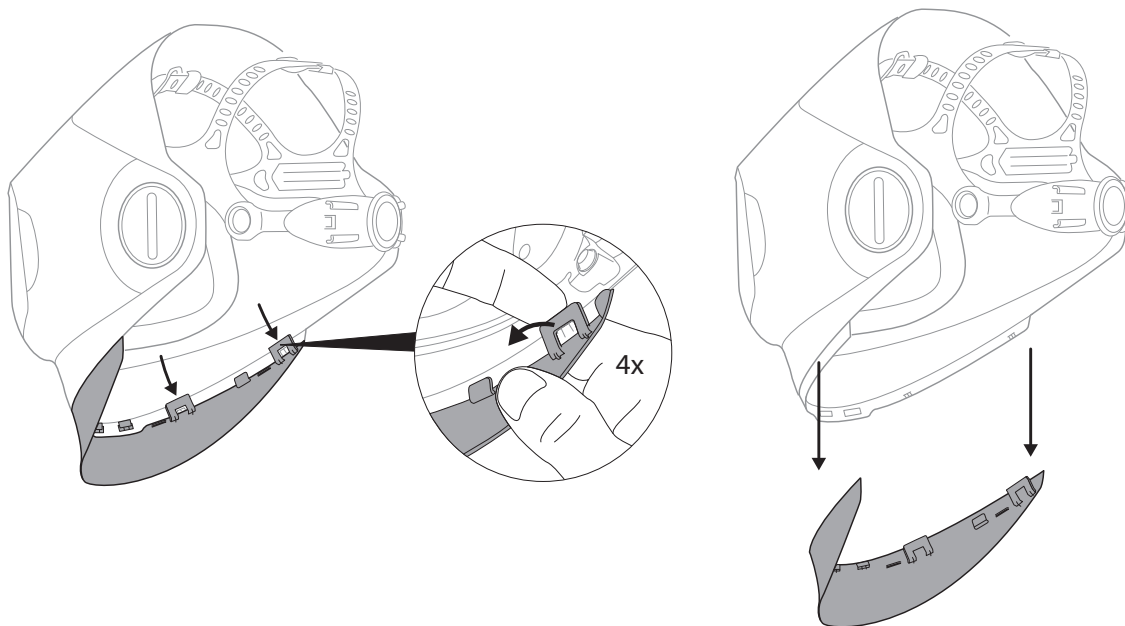
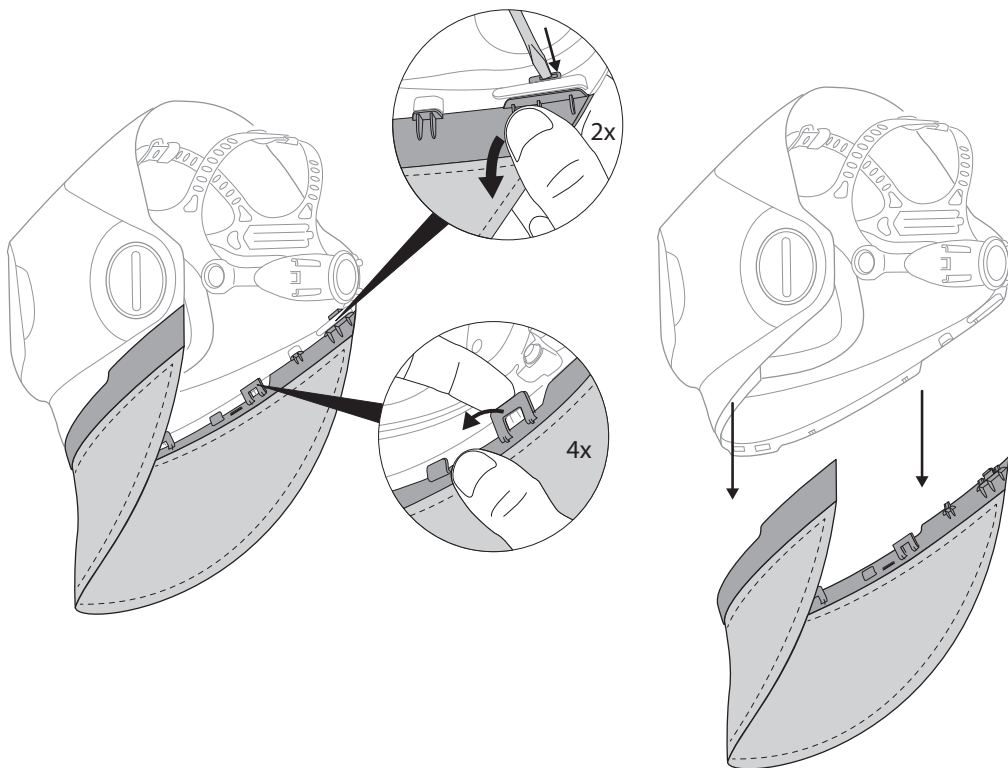

Fig. 19a
Fig. 19e
- b. When all clips have been disengaged, the neck cover piece may be pulled down off the welding helmet (Fig. 19a).
e. To remove the fabric or leather neck cover a small tool (screwdriver or small pick) must be used to push the outer retaining clips away from the welding helmet (Fig. 19e). Then the 4 small clips can be removed as in Fig. 19a.